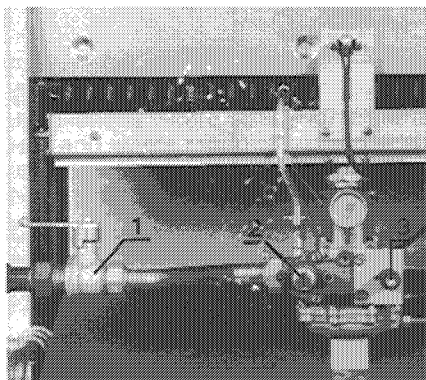

Fig. 5
11) Lighting the pilots – Open the gas valve on each module by turning gas cock in line with pipe (1 - Fig. 5). Press the gas control spindle (2 - Fig. 5) and hold in. Light the pilot by pressing piezo ignitor (3 - Fig. 5) and wait for approximately 20 seconds.
Release the gas control spindle (2 - Fig. 5) and the pilot should remain alight. If the pilot will not establish, check that the gas supply to each boiler is purged of air.
Where this is fitted, screw in to reduce the gas rate, and screw out to increase the gas rate (2 - Fig. 5).